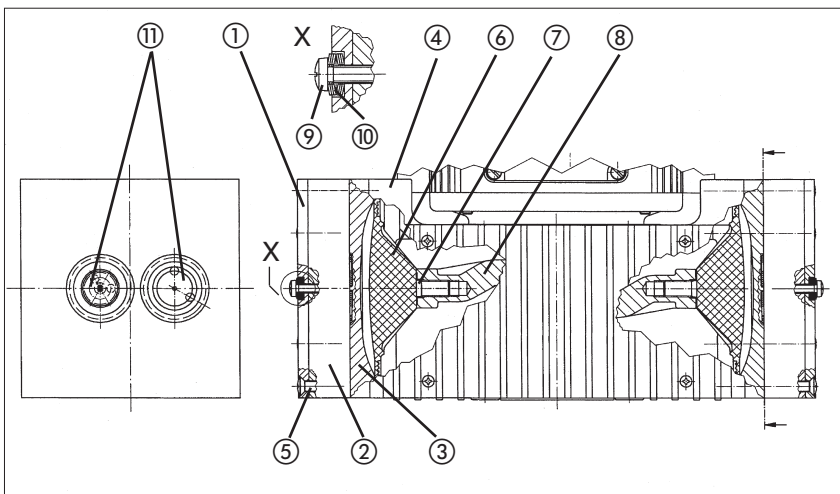

Fig. 7: Cross section of pump heads for pump N 860.3 FT.40.18 (symbolic)
▶ The position numbers in the following text refer to fig. 7.
- ➊ Turn the fan to bring the structured diaphragm ⑥ to medium position.
- ➋ Place the intermediate plate ③, with valve plates/sealings ⑪, on the housing, in the position indicated by the marking (M).
- ➌ Place the head plate ② on the intermediate plate ③ in the position indicated by the marking (M).
- ➍ Place top plate ① in position and insert screws ⑨ with disk springs ⑩, and tighten them until the screw heads are just fully seated (do not completely tighten them!).
- ▶ The concave side of the first three disc springs must point away from the screw head, the next three towards it (see fig. 7, detail X).
- ➎ Gently tighten the screws ⑤, evenly and diagonally.
- ➐ Now tighten screws ⑤ hand-tight.
- ➑ Tighten each of the screws ⑨ a half-turn more.